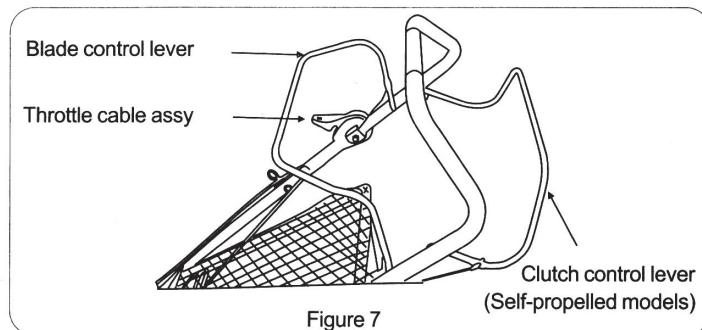

Figure 7
3. Collect the BLADE CONTROL LEVER (see Figure 7) braking the engine together with the upper handle and then start the engine.
4. Collect CLUTCH CONTROL LEVER (see Figure 7) controlling the clutch together with the upper handle and then start the engine.
5. Should change the moving direction, please release the CLUTCH CONTROL LEVER (see Figure 7), and then turn.
6. When the collector is full, please release the CLUTCH CONTROL LEVER and then release the BLADE CONTROL LEVER (see Figure 7).